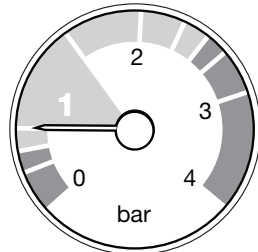

Fig. 2
2. It may be necessary to repressurise the system occasionally (Fig. 2). A filling device (the filling loop) will be fitted on the system. If you are unsure of its position, or cannot identify it, consult the installer who fitted the boiler.